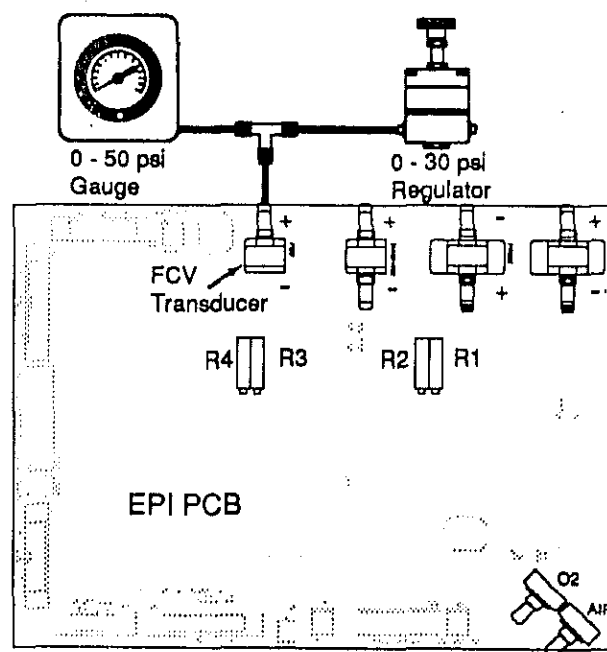

Figure 5-6
7. Connect the FCV Transducer as shown in Figure 5-6 and apply 12 ± 5 psig pressure.